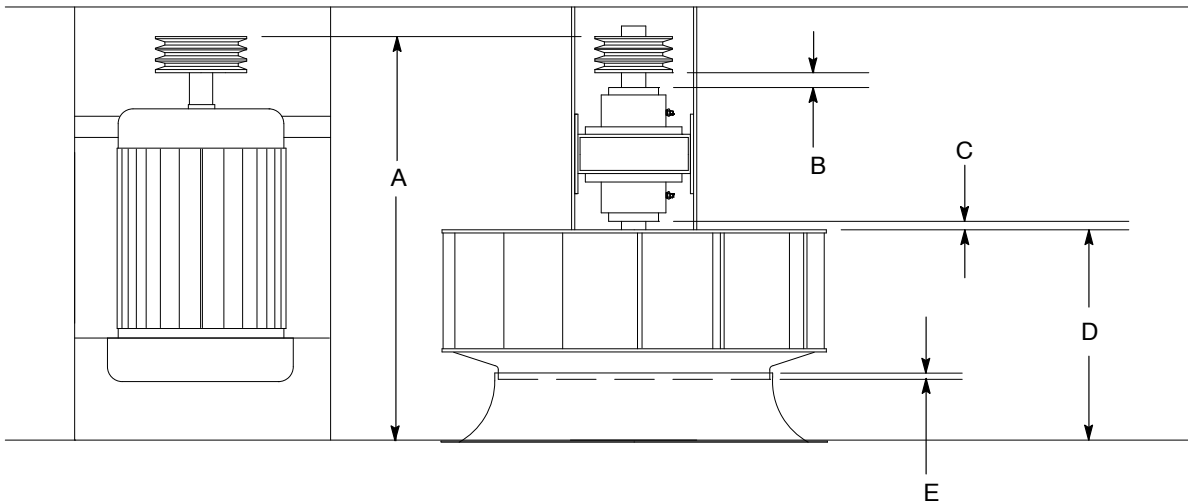

Figure 6-12 Fan and Motor Mounting Dimensions (Refer to Table 6-4)
1. See Figure 6-12 and refer to Table 6-4. Adjust the height of the fan on the shaft. The bottom of the fan should sit inside the cone (overlap) 3–6 mm (0.125–0.25 in.). Tighten the shaft set screw in the fan hub.
5. Tighten the cap screws evenly, a quarter turn at a time, to force the tapered bushing into the sheave. Tighten the screws as specified in Table 6-3. Maintain a gap of 3–6 mm (0.125–0.25 in.) between the bushing flange and the sheave. See Figure 6-12 and Table 6-4.